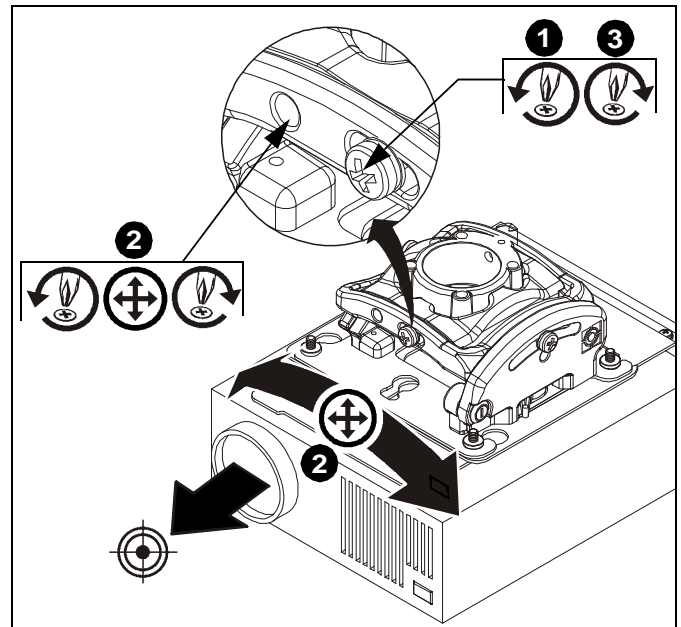

Figure 14
1. Loosen ROLL adjustment locking screw using a #2 Phillips screwdriver. (See Figure 14)